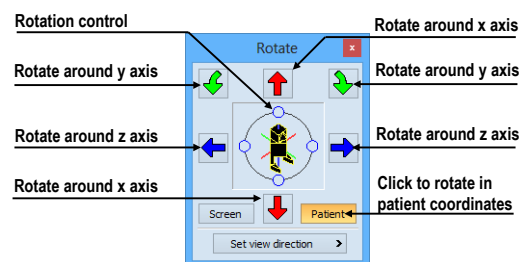

Figure 283 – Rotate tool (Patient mode)
- rotation in patient coordinates (see Figure 283)